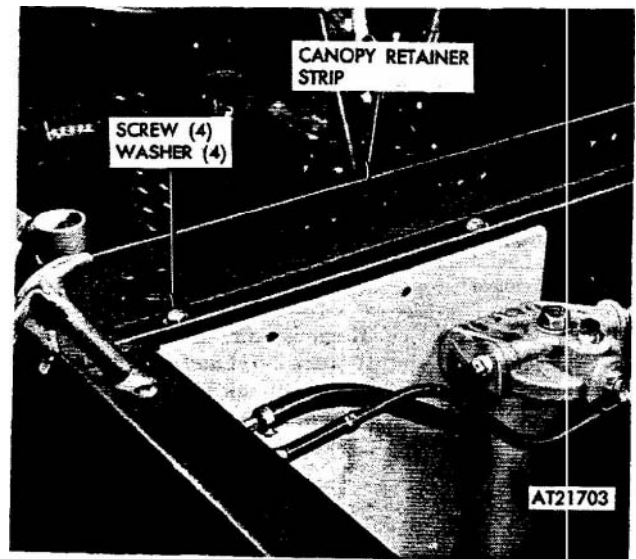

Figure 2-49. Canopy retainer strip.
- (1) Open engine cover and secure (refer to TM 9-2320-242-10).
- (2) Unfasten tractor canopy and fold canopy over windshield (refer to TM 9-2320-242-10).
- (3) Remove tractor seats (Refer to para 2-221).
- (4) Remove console as follows:
- (5) Remove canopy retainer strip by removing four screws and washers (fig 2-49).